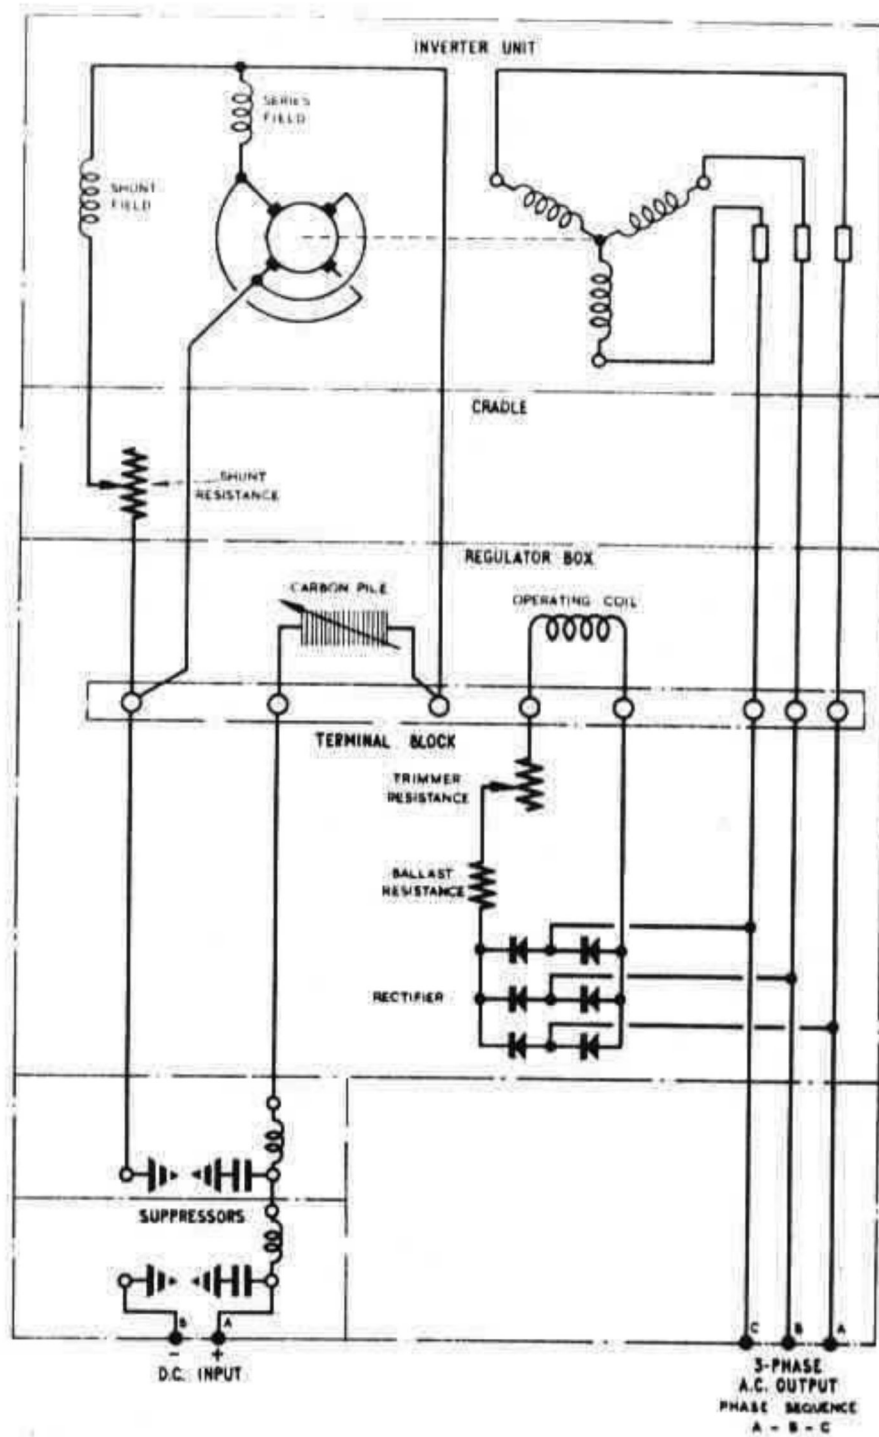

Fig.4 Circuit diagram
5. The four pole pieces are mounted in the bore of the yoke which is integral with the slip-ring end frame and carry the field windings, wound in compound coils. One end of the shunt and one end of the series field are connected to the positive terminal of the terminal block in the control panel box. The other end of the shunt winding is connected to the shunt resistor (housed in the cradle) whilst the remaining end of the series winding is connected to the positive brush terminal (see fig.4).